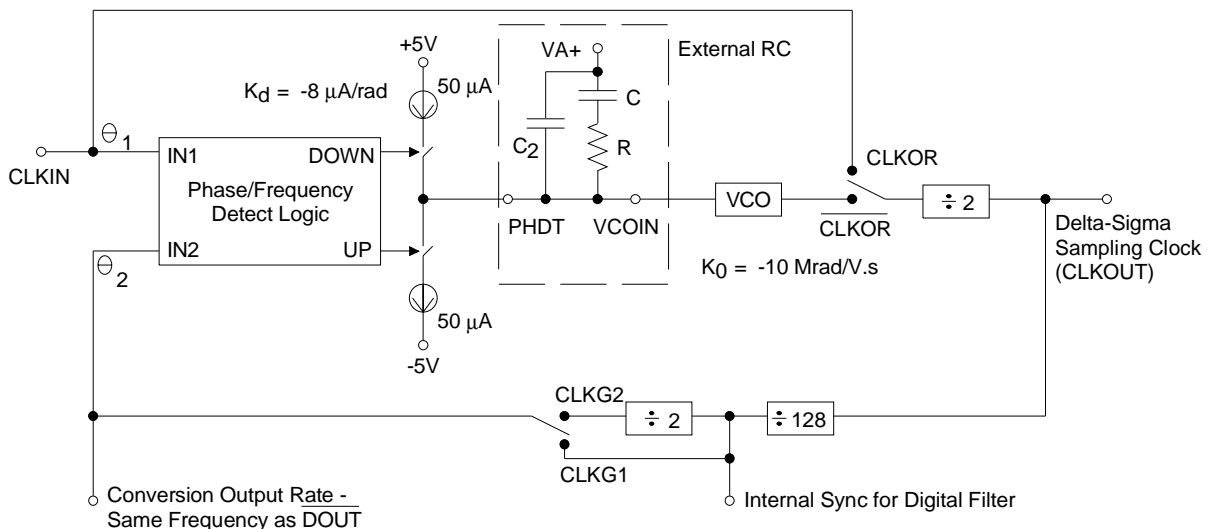

Figure 5. PLL Functional Diagram
A phase-locked loop is included on the CS5317 and is used to generate the requisite high frequency A/D sampling clock. A functional diagram of the PLL is shown in Figure 5. The PLL consists of a phase detector, a filter, a VCO (voltage-controlled oscillator), and a counter/divider. The phase detector inputs are CLKIN (θ_1) and a sub-multiple of the VCO output signal (θ_2). The inputs to the phase detector are positive-edge triggered and therefore the duty cycle of the CLKIN signal is not significant. With this type of phase detector, the lock range of the PLL is equal to the capture range and is independent of the low pass filter. The output of the phase detector is input to an external low pass filter. The filter characteristics are used to determine the transient response of the loop. The output voltage from the filter functions as the input control voltage to the VCO. The output of the VCO is then divided in frequency to provide an input to the phase detector. The clock divider ratio is a function of the PLL mode which has been selected.
tio sets the ratio of the VCO frequency to the CLKIN frequency. As illustrated in Figure 5, the VCO output is always divided by two to yield the CLKOUT signal which is identical in frequency to the delta-sigma modulator sampling clock. The CLKOUT signal is then further divided by either 128 in the CLKG1 mode or by 256 in the CLKG2 mode. When the divide by two stage is included, the divider ratio (N) for the PLL in the CLKG1 mode is effectively 256. In the CLKG2 mode the divider ratio (N) is 512.
In some applications additional filtering may be useful to eliminate any jitter associated with the discrete current pulses from the phase detector. In this case a capacitor whose value is no more than 0.1 C can be placed across the RC filter network (C₂ in Figure 5).